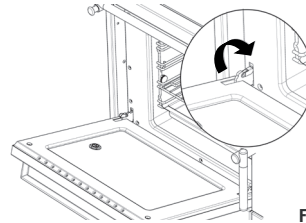

Fig. 70
- Fully open the oven door slowly. Again fold back the clips on the door hinges (Fig. 70). Close the oven door.